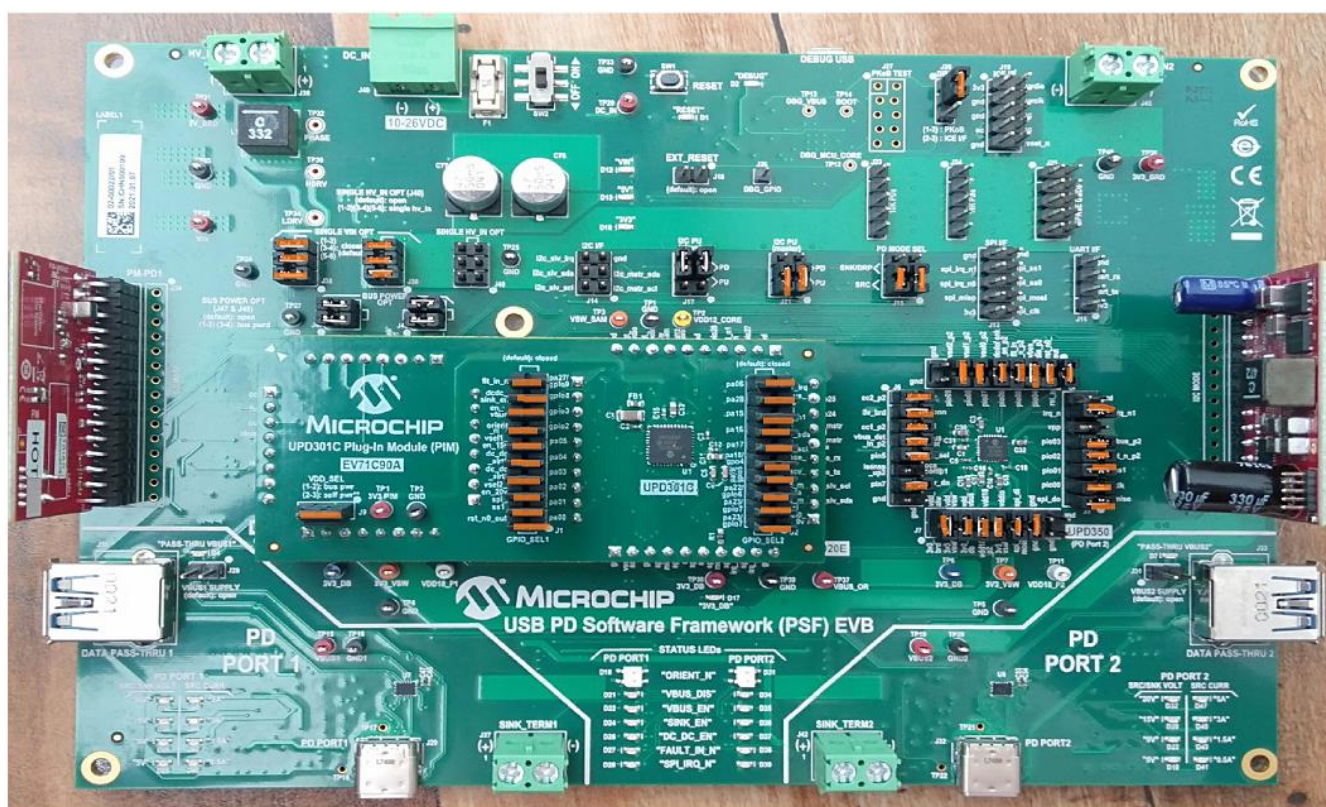

Figure 5.3 PSF-EVB with jumper connections highlighted
3. Ensure the following jumpers are connected in PSF-EVB before proceeding to next step. An image of PSF-EVB with all the required jumper connections highlighted is shown in Figure 5.3.